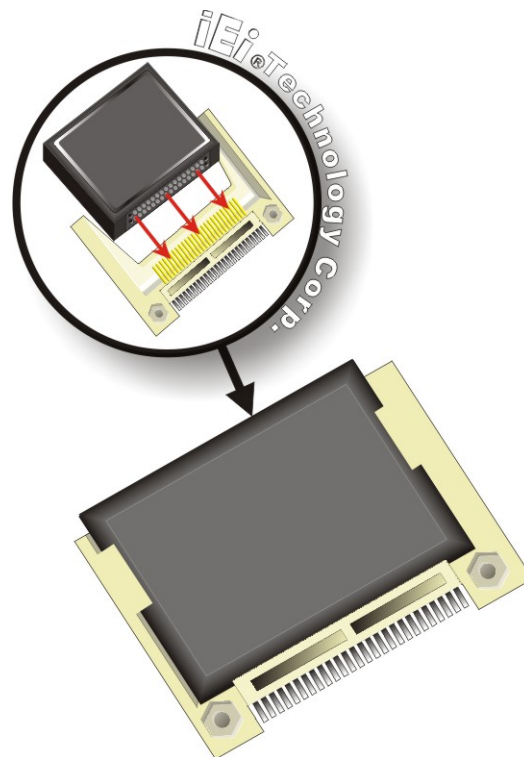

Figure 4-2: CF Card Installation
Step 3: Insert the CF card. Gently insert the CF card into the socket making sure the socket pins are properly inserted into the socket. See **Figure 4-2**.